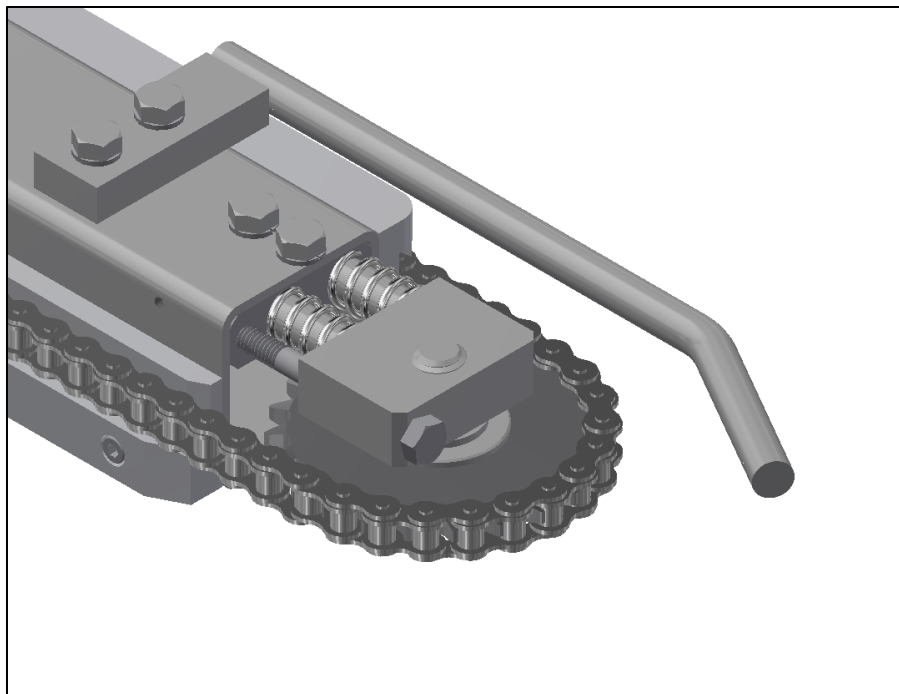

Figure 2. Tightening bolt to compress tensioner springs.
1. For ease of maintaining belt tension, the belt arm door allows convenient access to the tensioning block. For replacing a worn belt, removal of the entire belt arm cover is necessary. (See Figures 2 and 3 below.)